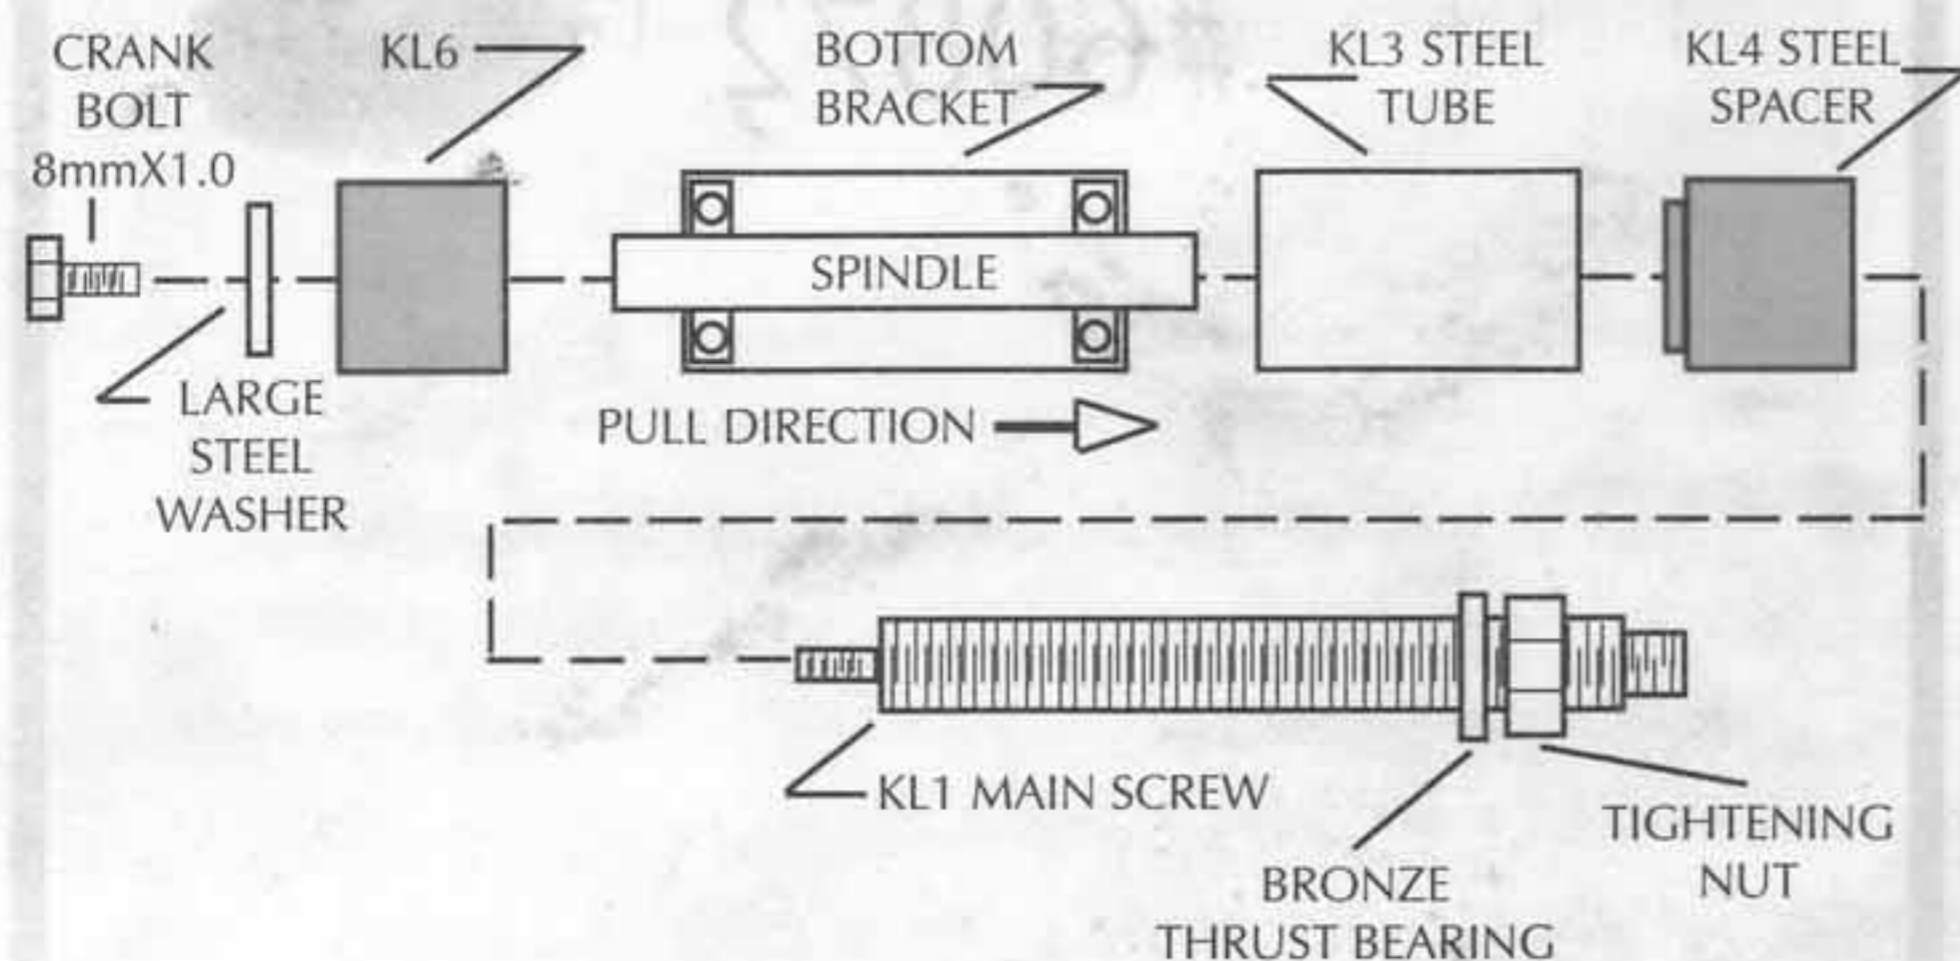

FIGURE 1
3. On the drive side thread the main screw (KL1) into the spindle. Note: it is important to maintain a well lubricated main screw during the entire procedure. Place the Steel tube (KL3) up against the bottom bracket shell, then on top of this, place the larger spacer (KL4) with its shoulder in the tube. Next slide over the bronze thrust washer and thread on the nut. See figure 1.